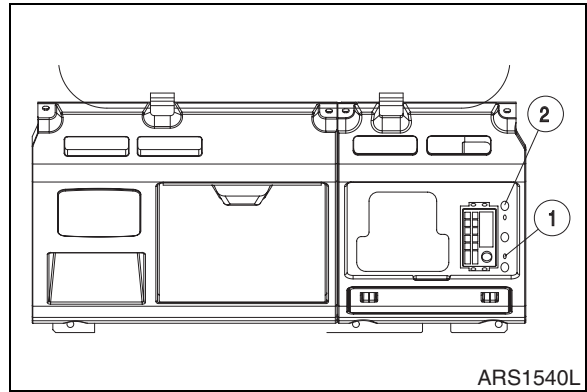
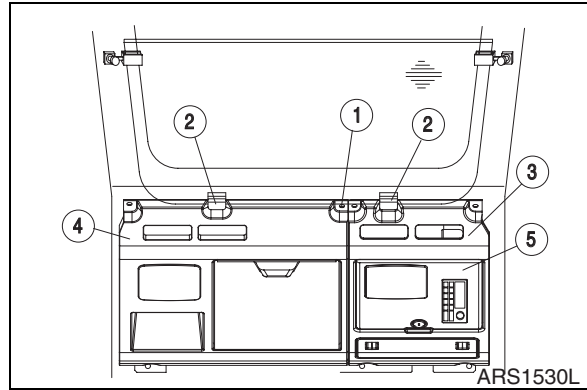

Figure 10
Figure 11
9. Install stereo assembly with bolts (2, Figure 10) after connect speaker wire and antenna wire.
10. Install right side dash cover (4, Figure 11) with bolts (1, Figure 10).
11. Install left side dash cover (3, Figure 11) with bolts (1, Figure 10). Install two rubbers (2, Figure 11).
12. Install cover (5, Figure 11) on left side dash cover (3).